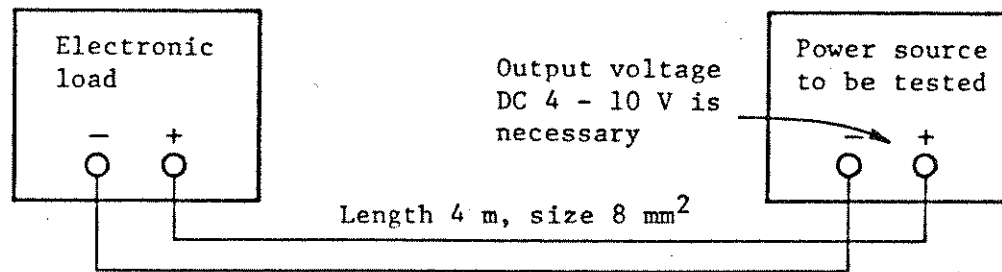

Figure 2-1-4
- ⑮ C.C RANGE. Switch to change the range for constant current mode.
- ⑯ FUNCTION. Either of the following four constant current modes may be selected: EXT (External Voltage Control), INT (Manual Control), SW (Switching Operation), and DC (DC Operation).
- ⑰ PRESET. By depressing this switch, current value or resistance value will be indicated on the digital ammeter depending on the state of the mode switch. At the constant current mode, current value may be preset by either CURRENT I or CURRENT II dial which is selected by the manual switch. At the constant resistance mode, resistance value may be preset by the CURRENT/RESISTOR dial.
- ⑱ PRESET W INPUT POWER. Loading power (watt) is indicated on the voltmeter while power limit value is indicated on the power indicator.
- ⑲ POWER LIMIT. Semi-fixed adjuster to change power limit value. The value may be set by use of the power indicator while depressing PRESET W switch.
- ⑳ CURRENT MONITOR. Current monitor terminals (10 mV/A). At the switching mode, current wave form and switching frequency and duty may be adjusted through an oscilloscope.
- ㉔ Terminal Base. The terminal base is installed for external controls. (See Fig. 2-1-4). Terminals for the following operations are installed: